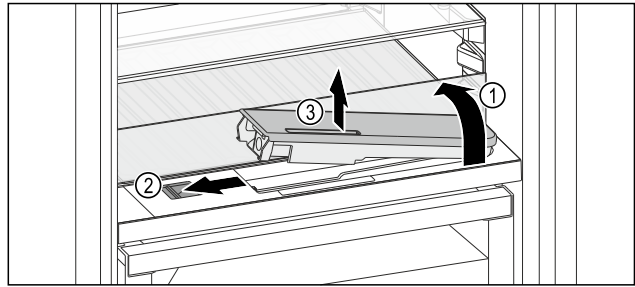

Fig. 158
- ▶ Lift the glass panel and fold towards the rear until it clicks into place Fig. 158 (1).
- ▶ Slide the slider Fig. 158 (2) to the left.
- ▶ Remove the water tank Fig. 158 (3).